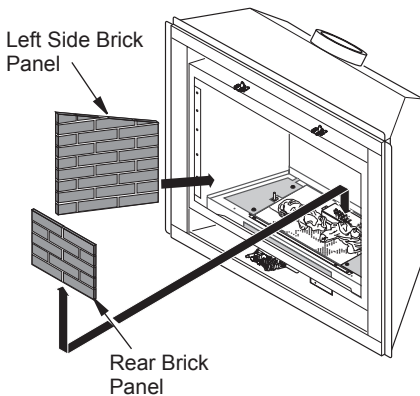

Figure 43 - Installing Rear Brick Panel
6. Install rear brick panel first. Rest bottom edge of panel on back edge of burner assembly (see Figure 43).
7. Install left side brick panel by sliding it between the burner assembly and the side of the firebox (see Figure 43).